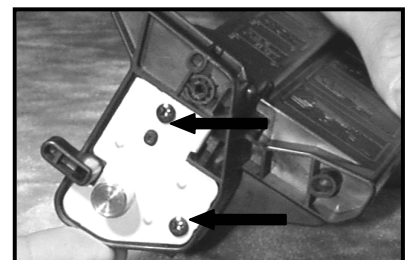

Figure 2
2. Remove the two (2) screws securing the drum retaining plate (Fig. 2). Remove the OPC drum from the waste hopper. Clean, inspect and lubricate the drum; replace if necessary (PN# H5DR1005). Wrap the OPC in a clean, lint-free cloth or store in a drum case to protect it from light and physical damage.